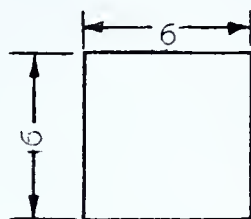

FIG. 252 — *Square*
**SQUARE** — Fig. 252. A four-sided figure whose straight sides are all the same length; when one surface or line is at  $90^\circ$  with another surface or line, the first surface or line is said to be square with the second surface or line.